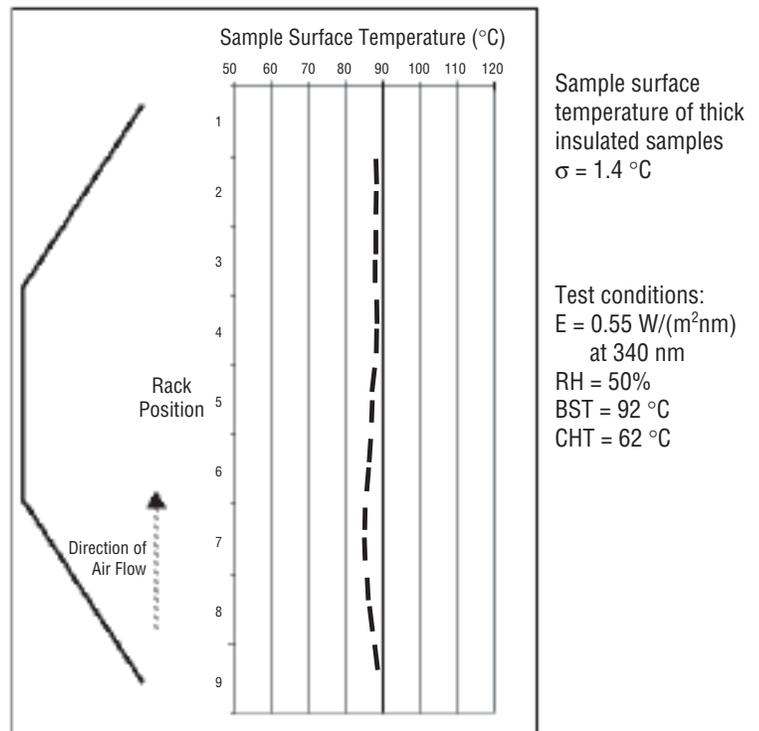

Figure 1: Uniformity of parameters on inclined three-tier rack
and radiant exposure (H). Additionally, the airflow within the chamber is designed to ensure best possible uniformity of BST/BPT, CHT, and RH on sample level. Since physics has not changed during the last several decades, this concept is still valid. Taking into account the technological effort that is required to achieve best uniformity using *all three dimensions* (e.g., two-tier or three-tier racks in instruments with large sample capacity), the drawback of being confined to a *two-dimensional* sample tray becomes obvious. Figure 1 (page 5) shows the uniformity of the sample surface temperature in a three-tier Atlas Ci5000 Weather-Ometer® [1].